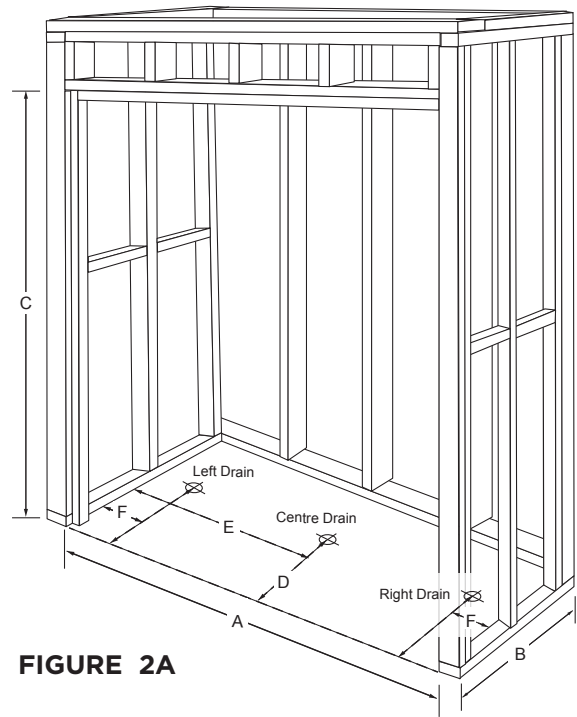

FIGURE 2A
Table 1 - Technical Data (p. 4) are for framed openings, not those of the unit. The bathware unit is to fit into a framed alcove wall as shown in **Figures 2A & 2B**. Inside dimensions of the studded alcove are to be as specified in **Table 1 - Technical Data**.
1. Build a solid frame using dimensions listed in **Table 1 - Technical Data** (see pg. 4). (**Figures 2A and 2B**)